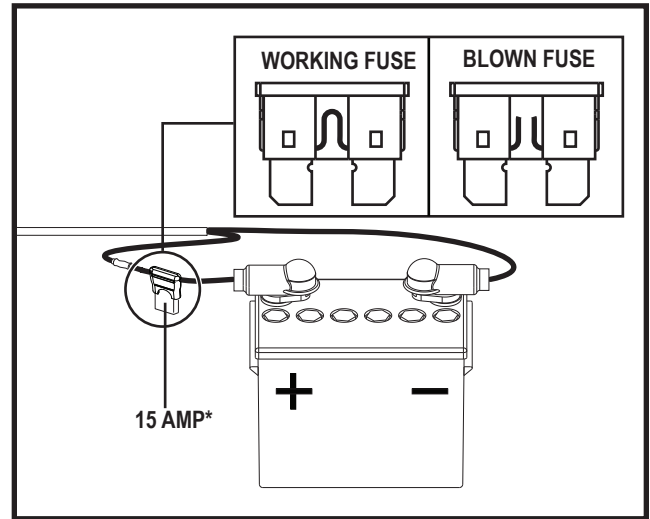

Figure 9. Hardware Fuse
- If the circuit breaker reset button is not tripped, check the hardware fuse to see if it is blown. Replace if necessary. **See figure 9.**
- Check the fuse located on the red power wire near the battery. If blown, replace with a new 15-amp fuse. **See figure 9.**